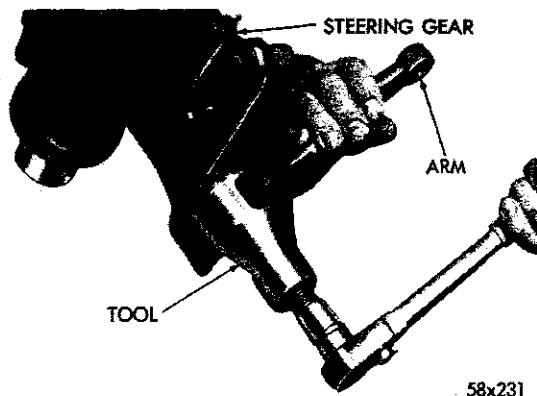

Fig. 25—Removing the Steering Gear Arm
(19) On Chrysler and Imperial Models loosen the jacket tube clamp at the steering gear housing.
(20) Remove the cotter key and nut at the cover link and disconnect the link from the arm.
(21) Remove the arm nut and washer at the steering gear shaft.
(22) Slide Tool C-3646 up on the arm and place the shoe of the puller behind the steering arm (Fig. 25). Tightening the tool center screw against the gear shaft, will pull the steering arm from the gear shaft.